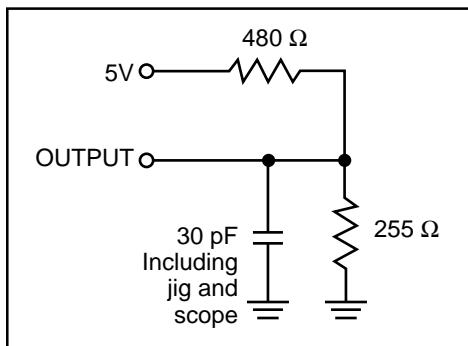

Figure 1
- Test conditions assume signal transition times of 3 ns or less, timing reference levels of 1.5V, input pulse levels of 0 to 3.0V and output loading specified in Figure 1.
Output Load	See Figures 1 and 2
1. Test conditions assume signal transition times of 5 ns or less, timing reference levels of 1.5V, input pulse levels of 0 to 3.0V and output loading specified in Figure 1.